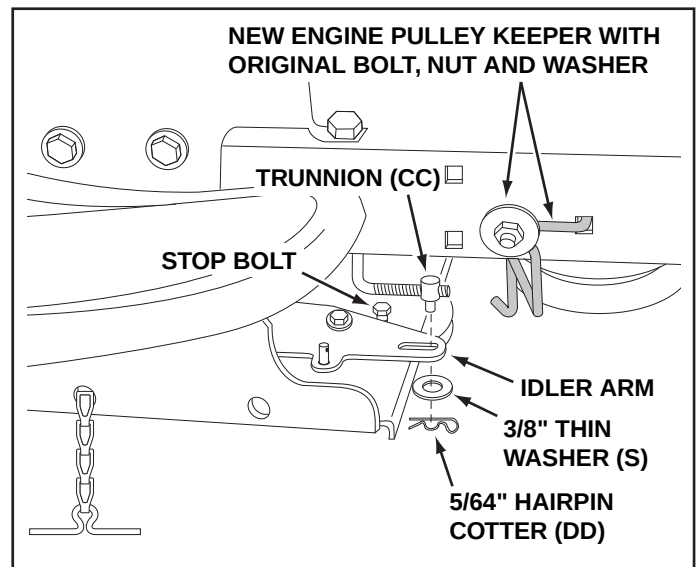

FIGURE 33
STEP 33: (SEE FIGURE 33)
- Pivot the upper idler arm so that it rests against the stop bolt and is pointing toward the front as shown. Screw the trunnion (CC) along the threads of the engagement rod until it is aligned at the front end of the idler arm slot. Attach the trunnion (CC) to the slot using the 3/8" thin washer (S) and a 5/64" hairpin cotter (DD).